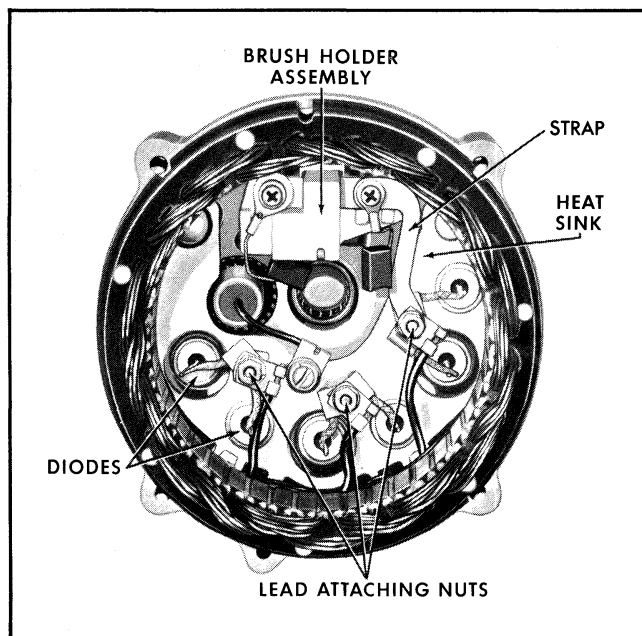

Fig. 11-19 Slip Ring Eng. Frame
1. Remove 3 stator lead attaching nuts and washers (Fig. 11-19).
1. Remove two brush holder screws and stator lead to strap attaching nut and washer (Fig. 11-19).